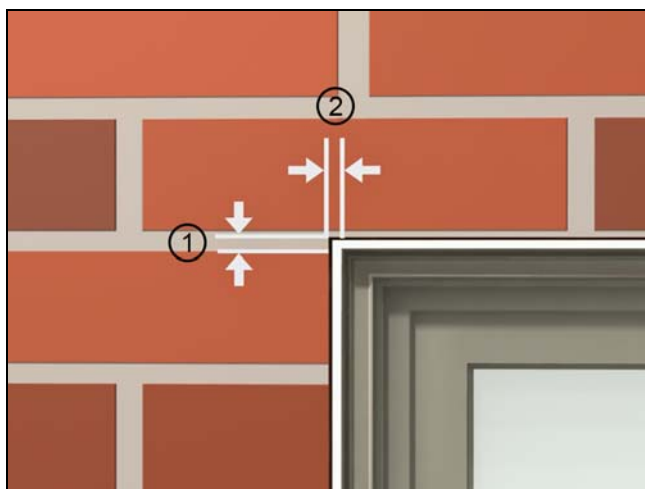

Figure 4 Typical Masonry Opening
3. Masonry openings (MO) should be 1/2" (13) wider than the outside measurement of the frame and casing and 1/4" (6) higher than the outside measurement of the frame or casing. See Figure 4.